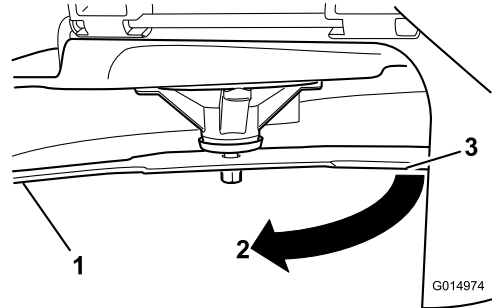

Figure 60
4. Rotate the same blade 180 degrees so that the opposing cutting edge is now in the same position (Figure 60).